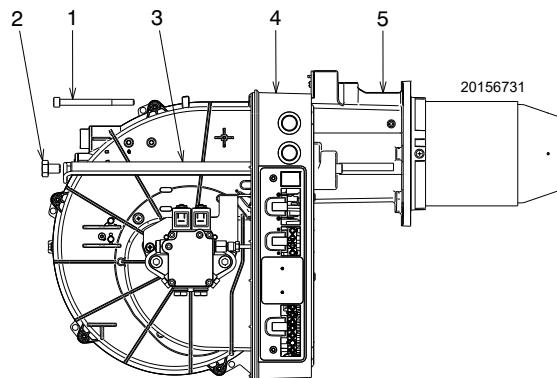

Fig. 13
- Then put the burner 4) back on the slide bars 3) and slide it up to the flange 5), keeping it slightly raised to prevent the flame stabiliser unit from pushing against the guide tabs 6) of the blast tube (Fig. 13).
- Tighten the screws 2) on the slide bars 3) and the screw 1) that fixes the burner to the flange (Fig. 13).